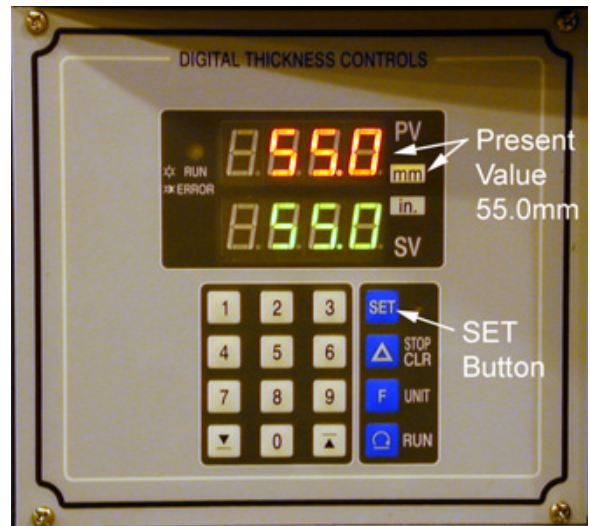

Figure 12
1. The digital thickness controller in **Figure 12** shows a *present value* of 55.0mm.